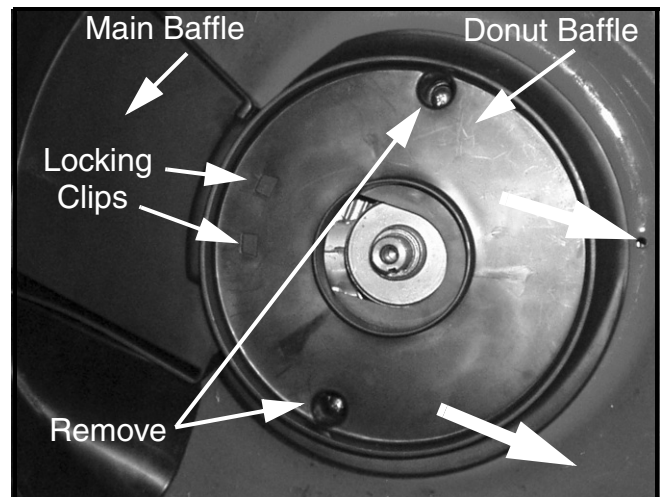

FIGURE 8
24. If so equipped, remove the two screws securing the donut baffle to the deck. Then lift the donut baffle up and slide forward away from the main baffle to unhook the two donut baffle locking clips from the main baffle. See Figure 8. Mounting hardware varies dependent on model and year.
74. Re-install the donut baffle using the hardware removed in Step 24. See Figure 8.